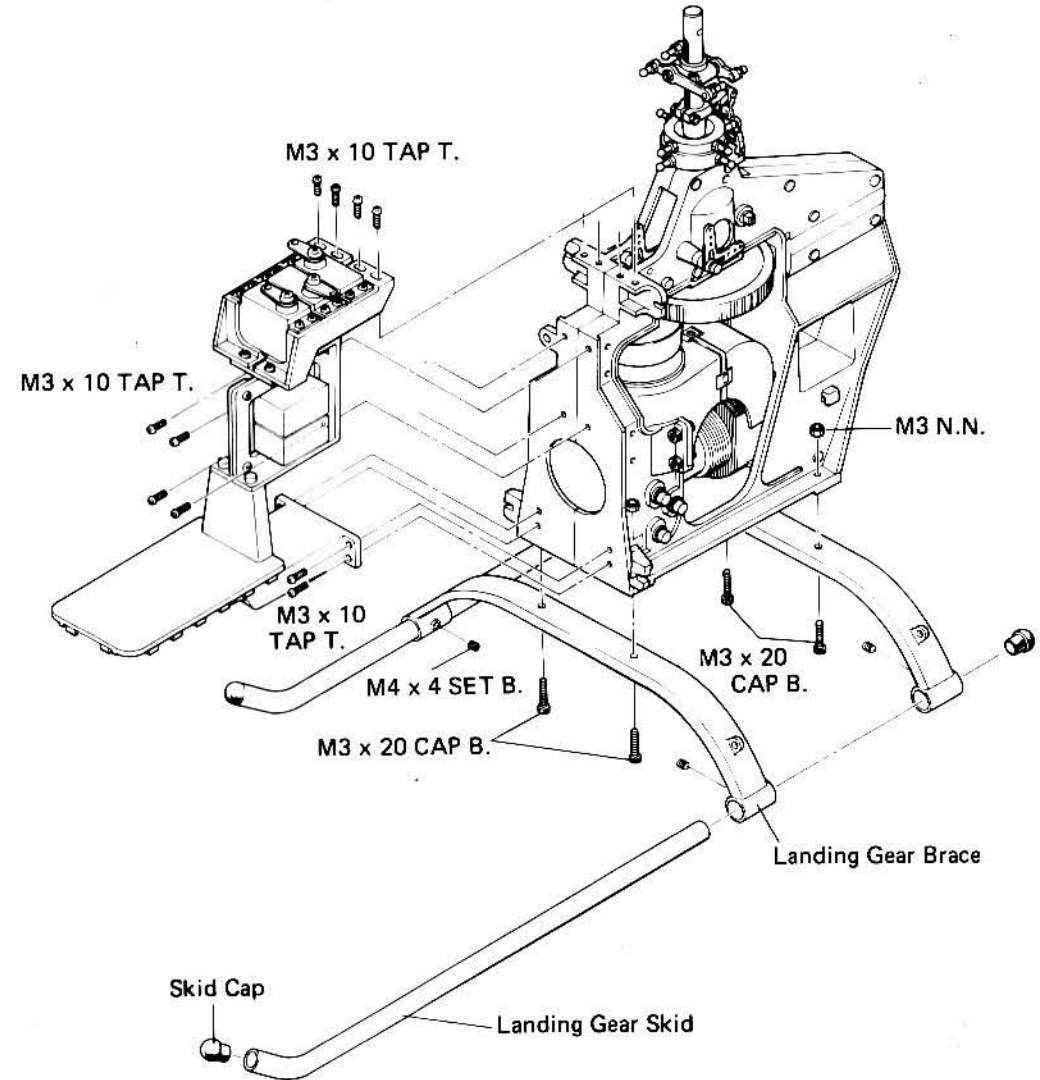

Fig. 16
- 26** Attach the completed front assembly to the main frame. See fig. 16.
- 28** Bolt the two landing gear braces to the bottom of the main frame. See fig. 16.